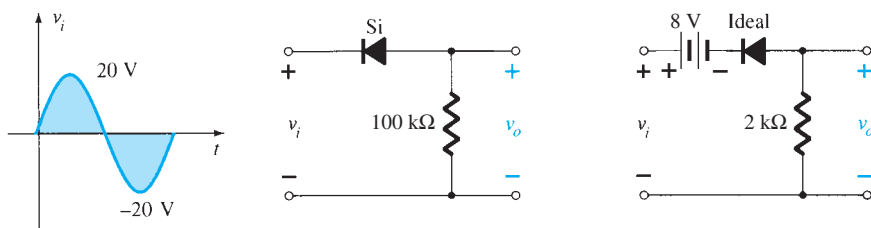

FIG. 2.176
32. Determine v_o for each network of Fig. 2.176 for the input shown.